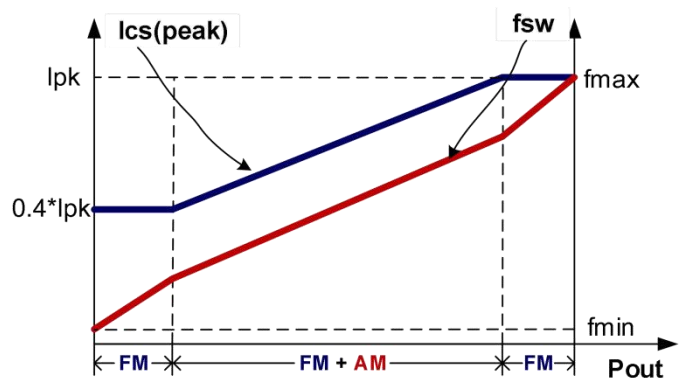

Fig 4
To meet the tight requirement of averaged system efficiency and no-load power consumption, a hybrid of frequency modulation (FM) and amplitude modulation (AM) is adopted in DP2313HTFA which is shown in the Fig 4.